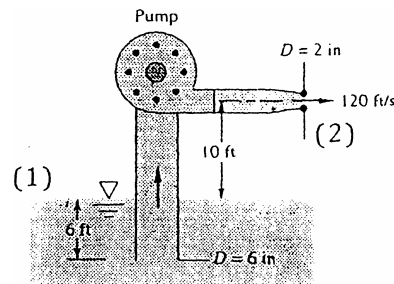

Fig. P3.137
3.137 A fireboat draws seawater (SG = 1.025) from a submerged pipe and discharges it through a nozzle, as in Fig. P3.137. The total head loss is 6.5 ft. If the pump efficiency is 75 percent, what horsepower motor is required to drive it?